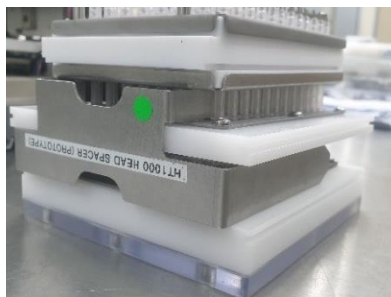

Figure 3-6a: Fluidic Head
8. Remove the fluidic head from its packaging, and position and insert the Fluidic Head Spacer (available in the accessories pack) according to Figure 3-6a.